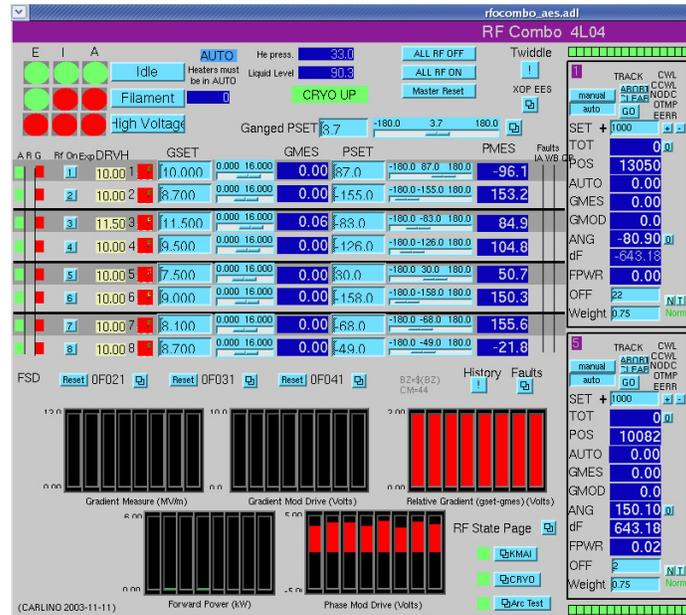

Figure 11-1: RF Zone 4
1. Open the *RF Combo 4L04* screen from **FEL Main Menu**⇒**RF**⇒**RF FEL Main Menu**⇒**Zone 4 Misc**⇒ 2nd blue button (Figure 11-1).